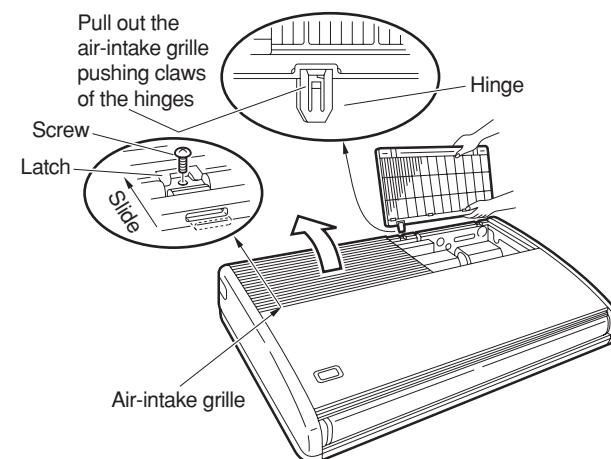
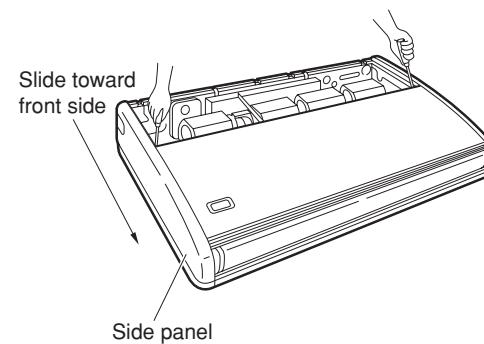

Fig. 3-88a
Fig. 3-88b
(5) Before suspending the indoor unit, remove the 2 or 3 screws on the latch of the air-intake grilles, open the grilles, and remove them by pushing the claws of the hinges as shown in Fig. 3-88a. Then remove both side panels sliding them along the unit toward the front after removing the 2 attachment screws. (Fig. 3-88b)